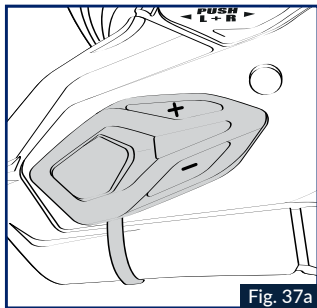
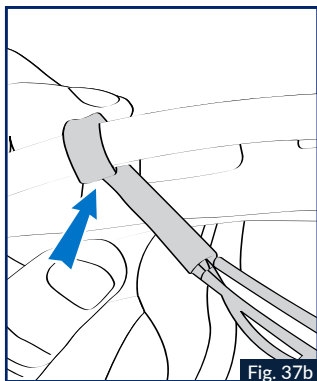

Fig. 37a
Fig. 37b
8. Affix the main keypad to the defined location (Fig. 37a), using the double-sided tape provided on the keypad, insert the flat cable between the shell and the polystyrene cheek piece to the left of the clip lining (red part) as shown in Fig. 37b.